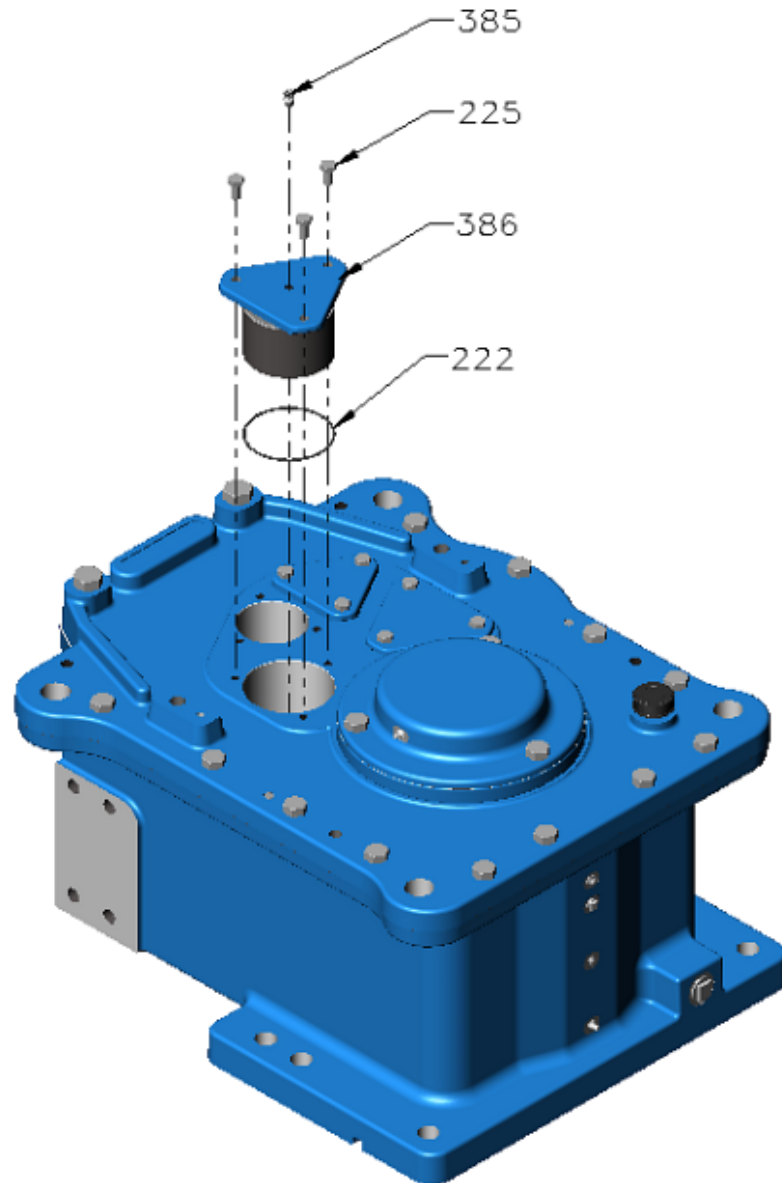

Figure 5 – Second Intermediate Cap
- G. At second intermediate shaft, remove the following items (Refer Figure 5):